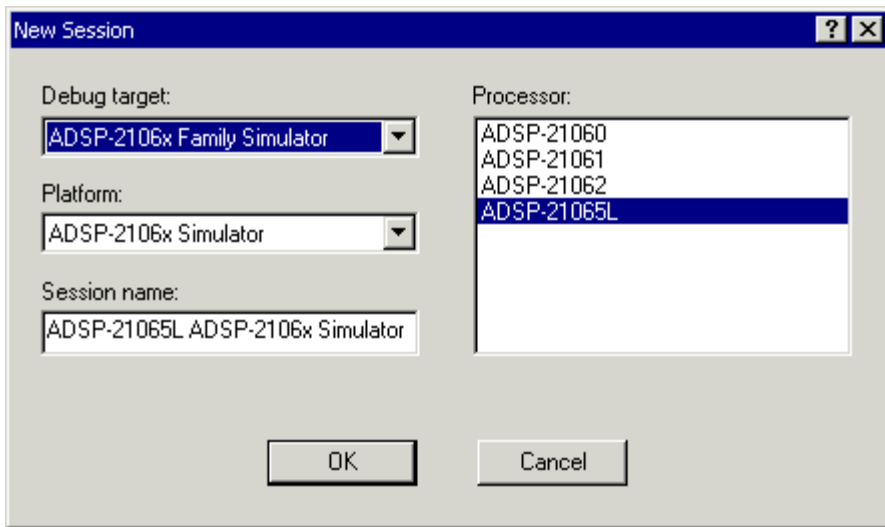

Figure 2-6. New Session Dialog Box
If you are running VisualDSP++ for the first time, the **New Session** dialog box (Figure 2-6 on page 2-11) opens to enable you to set up a session.
1. **In the Session List** dialog box, click **New Session** to open the **New Session** dialog box, shown in Figure 2-6 on page 2-11.